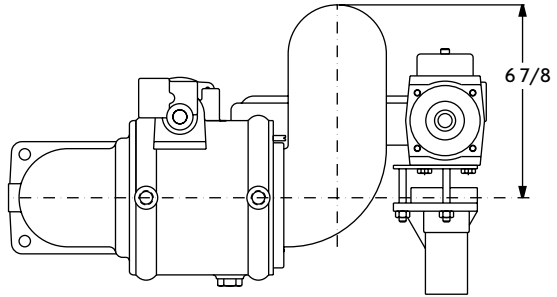

Figure 2
STEP 1 Install a Stop in the #2 Stop/Plug location for the Rotational Travel (See Figure 2 - Side View). Install a Stop in the Horizontal Stop location (See Figure 2 - Top View). Remove all other stops and plugs from the Elevation and Rotational locations.
STEP 4 The potentiometer sensors are now calibrated; remove the two Elevation and Rotational stops. Install all the plugs and stops in the desired locations (Figure 2).